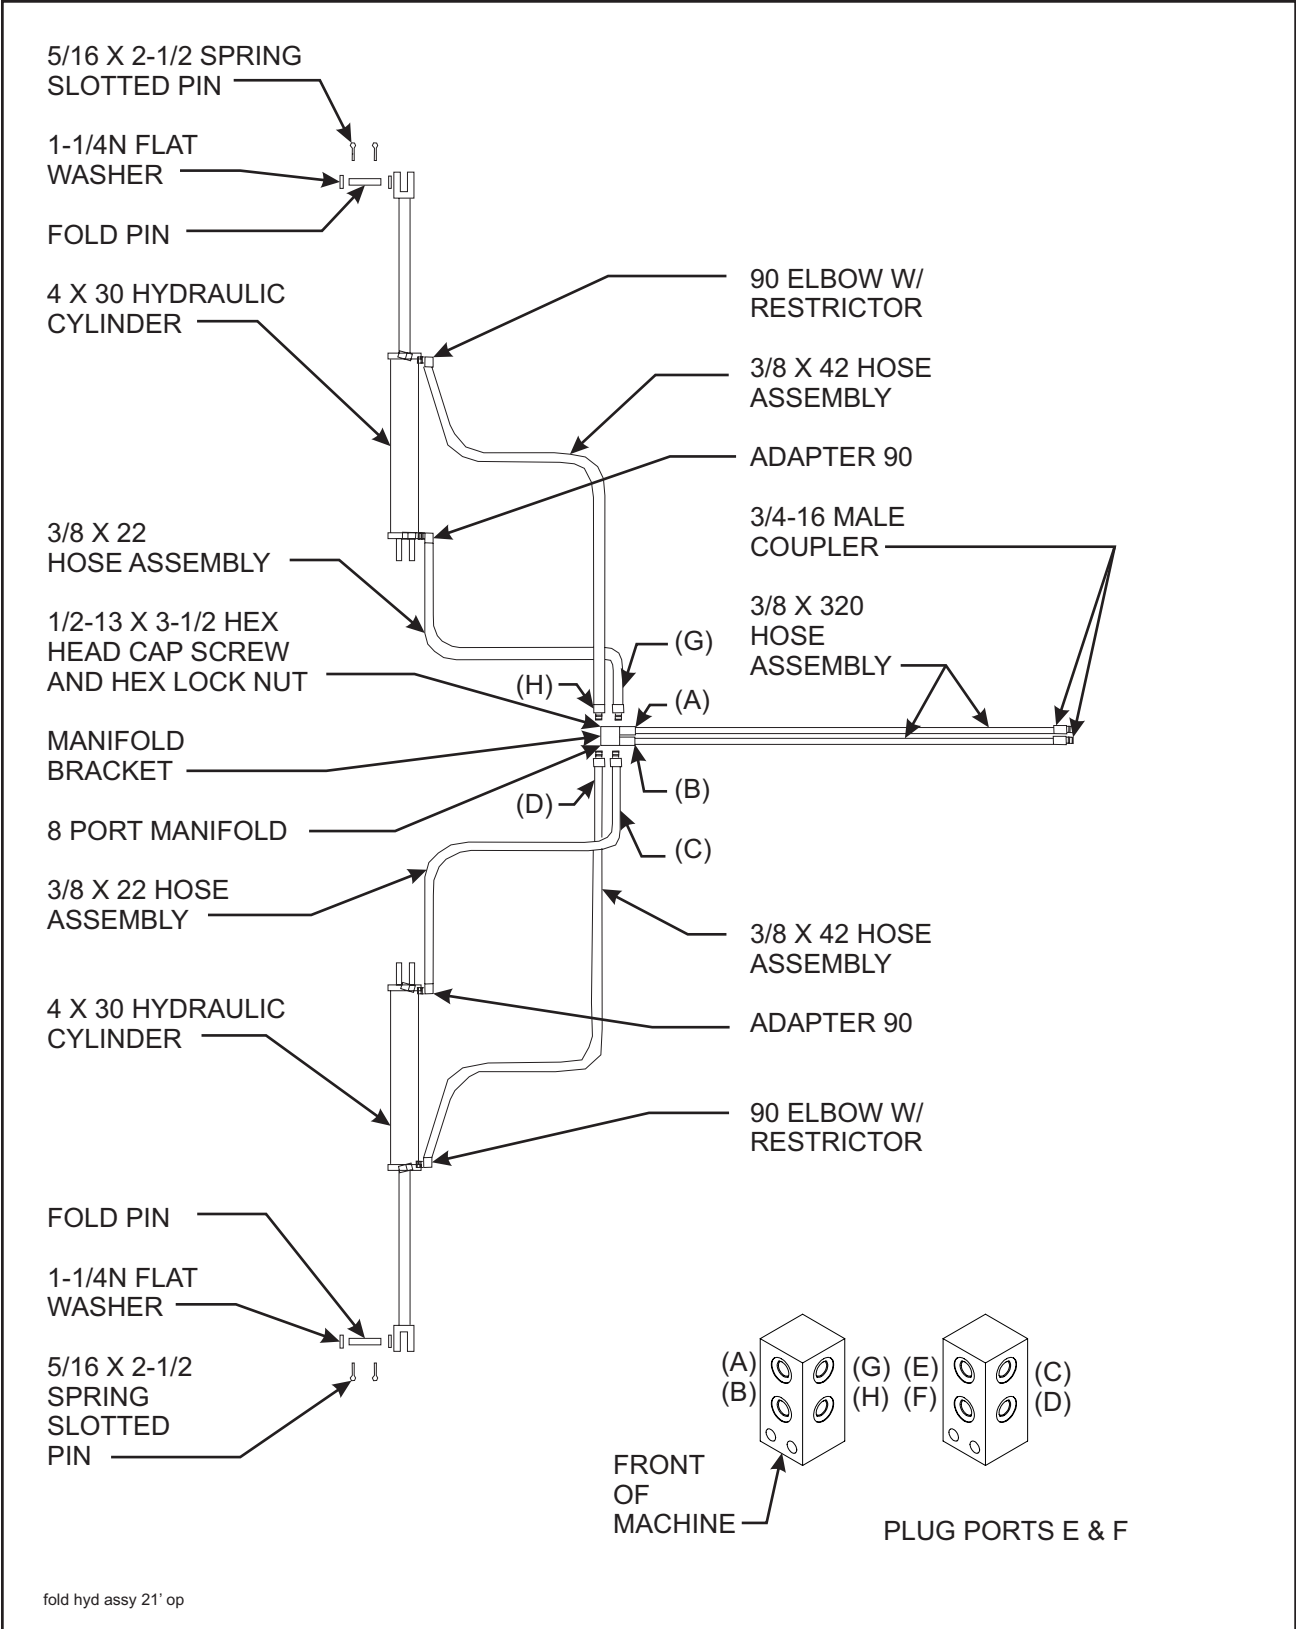

Figure 3-11 Fold Hydraulic Installation (21' Model)
- 3-11.11 Install fold system hoses per **Figures 3-11, 3-13, 3-15, 3-17, 3-19, and 3-21.**